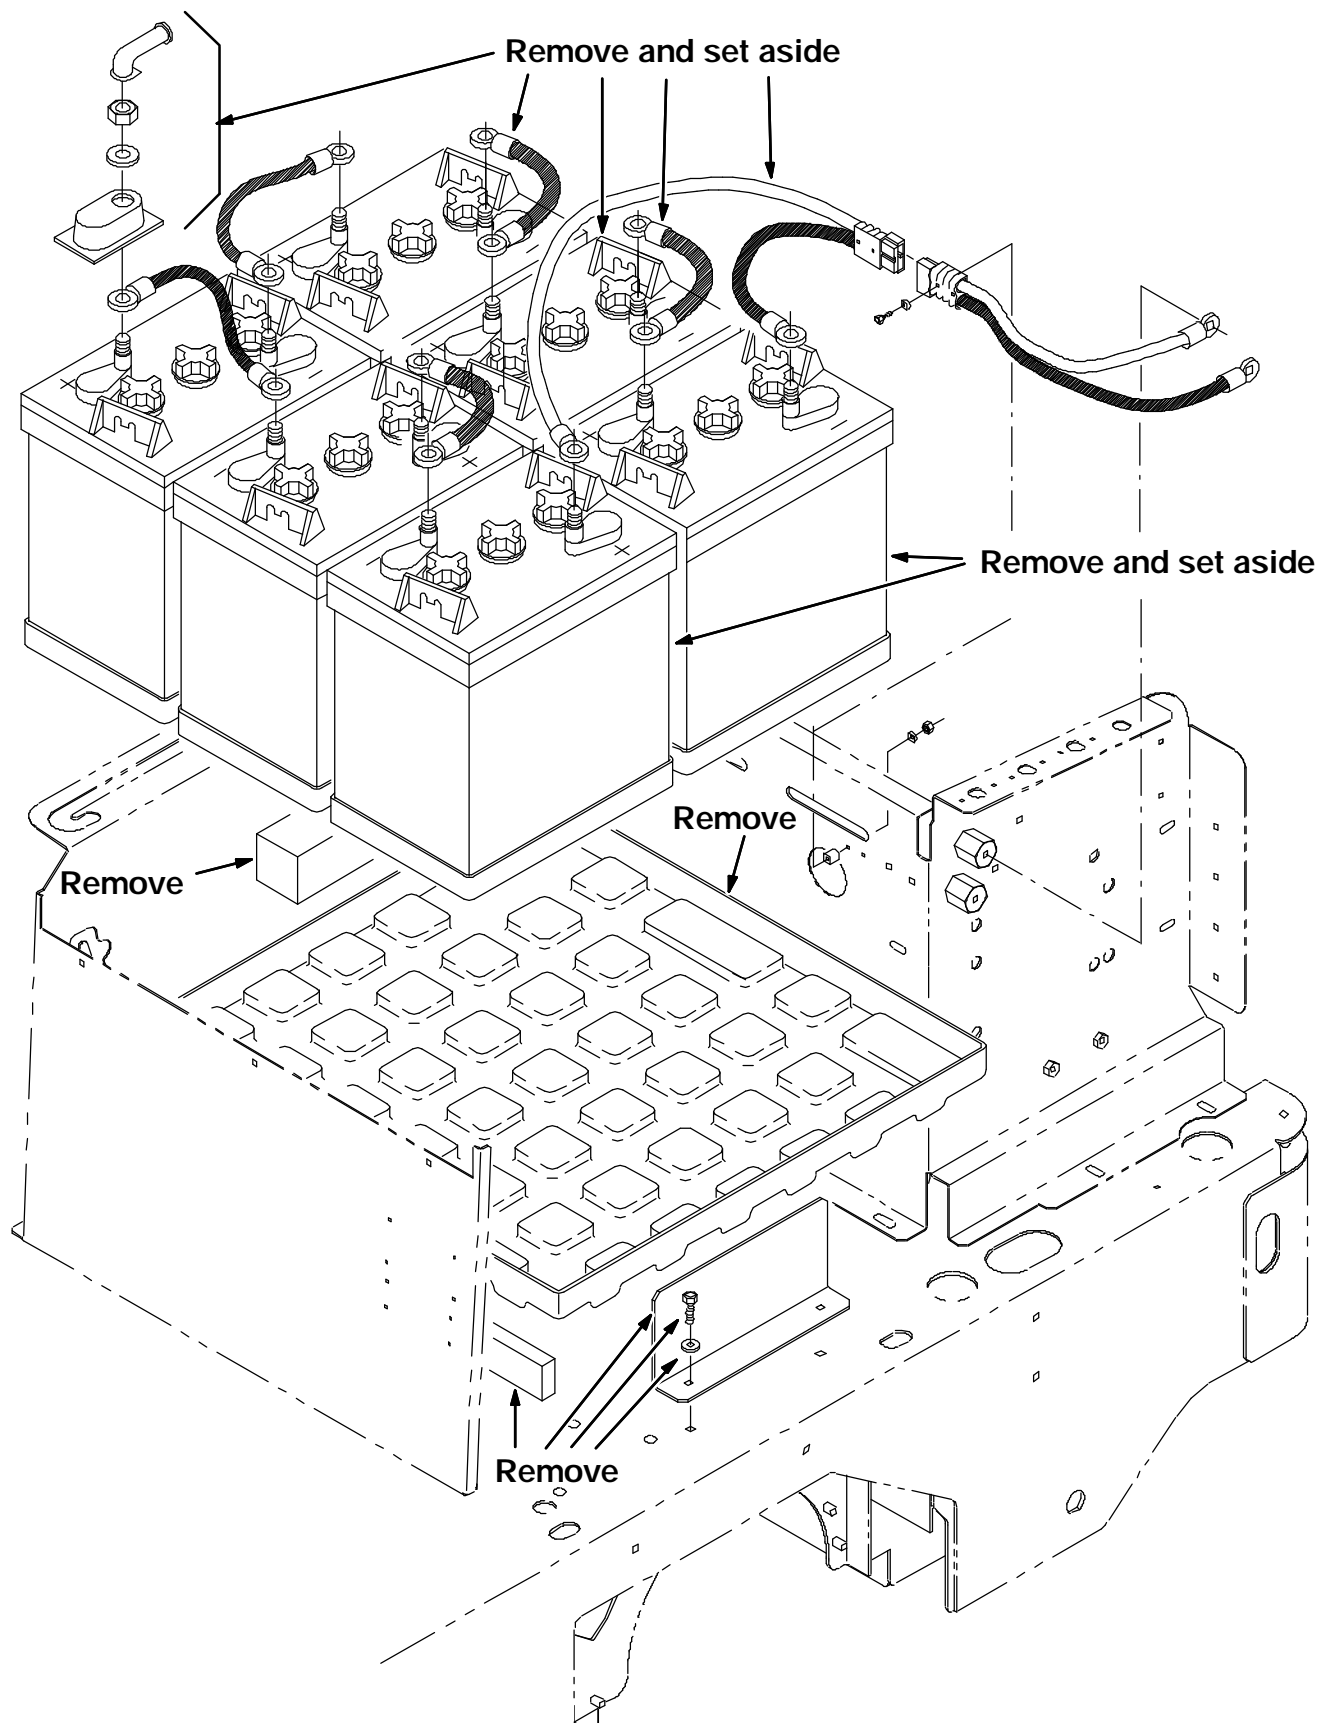

FIG. 1 Battery Group Removal
(Refer to FIG. 1, 2 and 3)
2. Remove and set aside all battery cables. Remove and set aside all batteries from the machine. (Refer to FIG. 1)
3. Remove the plastic battery tray and battery spacers. (Refer to FIG. 1)
4. Remove the battery brace bracket. (Refer to FIG. 1)